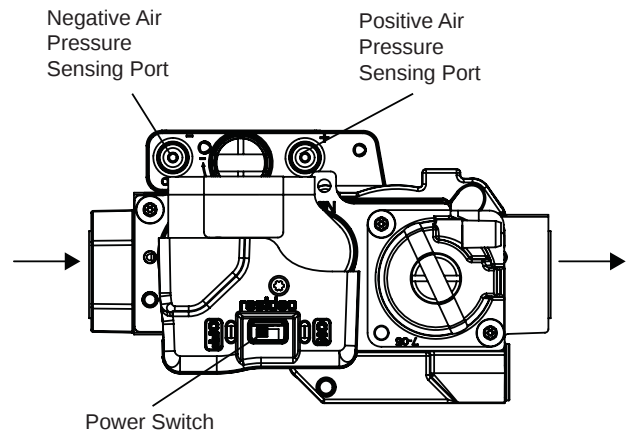
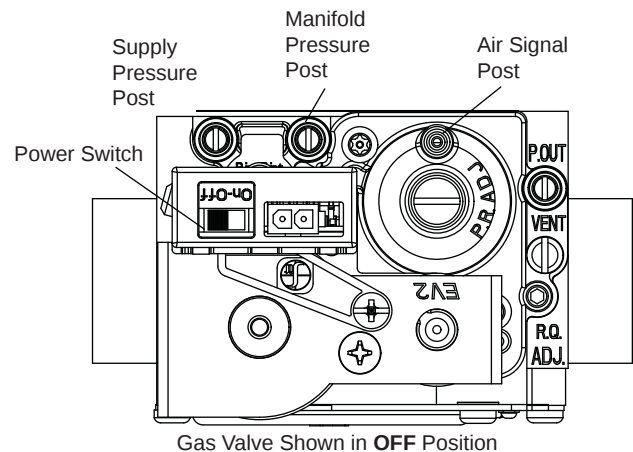

Figure 1. Gas Valve
Figure 2. SIT Valves
See Figure 1 or Figure 2
6. Move switch on gas valve to **OFF**. See Figure 1 or Figure 2.
8. Move switch on gas valve to **ON**. See Figure 1 or Figure 2.